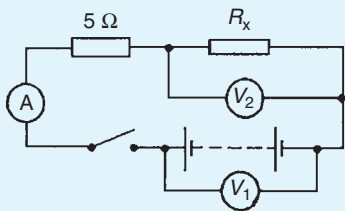

Figure 5.10
- When the switch in the circuit in Fig. 5.10 is closed the reading on voltmeter 1 is 30 V and that on voltmeter 2 is 10 V. Determine the reading on the ammeter and the value of resistor  $R_x$  [4 A, 2.5  $\Omega$ ]